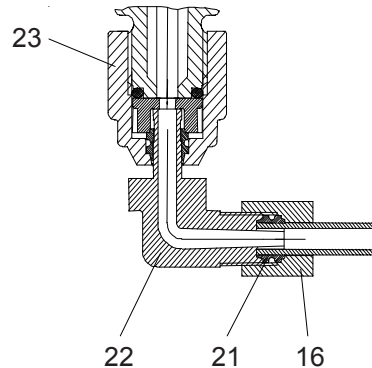

Figure 2.7 - Metering Line Installation
Cut off the tubing straight, push union nut (16), and plastic ferrule (21) over the tubing. Attach the tubing into the connection piece (22) all the way in and screw in the union nut tightly by hand. Adjust the angle to a convenient position by loosening and tightening the nut (23). See Figure 2.7.